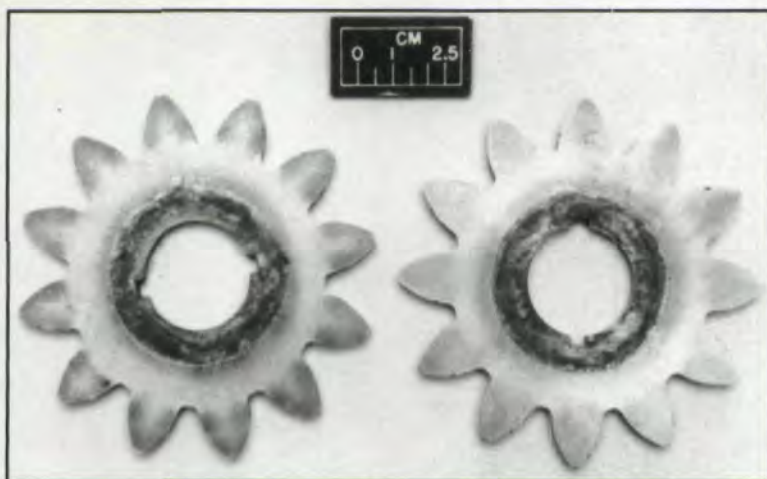

Fig. 2 Test gear configurations. (a) Standard involute. (b) Noninvolute.
**Test Gears.** The test gears are shown in Fig. 2. Their dimensions are given in Table 1. All the gears had a nominal surface finish on the tooth face of 0.82  $\mu$ m (32  $\mu$ in.) rms. The baseline gears had a standard involute profile; the noninvolute gear had a profile that deviated from a standard